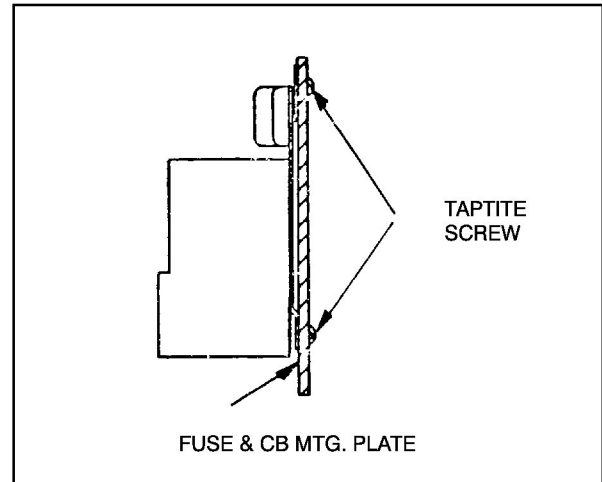

Figure 5 — Side View Of Blower Motor Starter Mounted To Fuse/Circuit Breaker Panel
3. Mount Blower Motor Kit to fuse/circuit breaker mounting plate using four taptite screws provided. Screws enter from rear of mtg. plate. (Reference Figure 5). **NOTE: Kit is mounted on left hand side for MinPak Plus and right-**